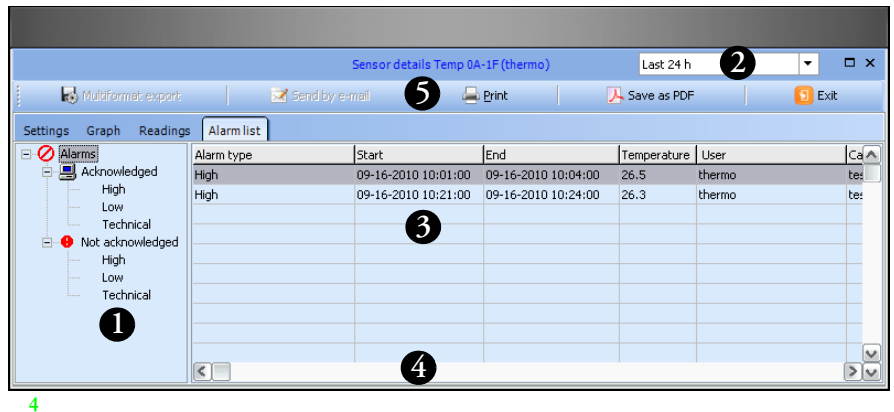

Figure 82. Alarm list for a specific sensor
3. Use the tree structure (#1 in Figure 82) to filter the alarms displayed by type and/or by acknowledgement status.